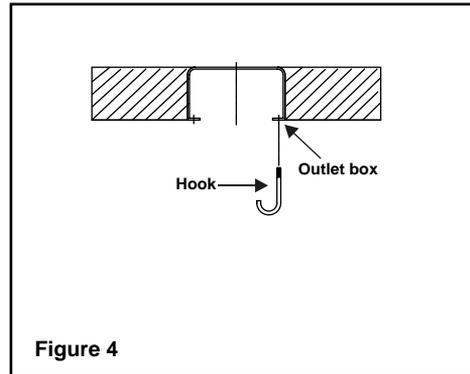

Figure 4
1. Secure the hook onto the outlet box. (Fig. 4)